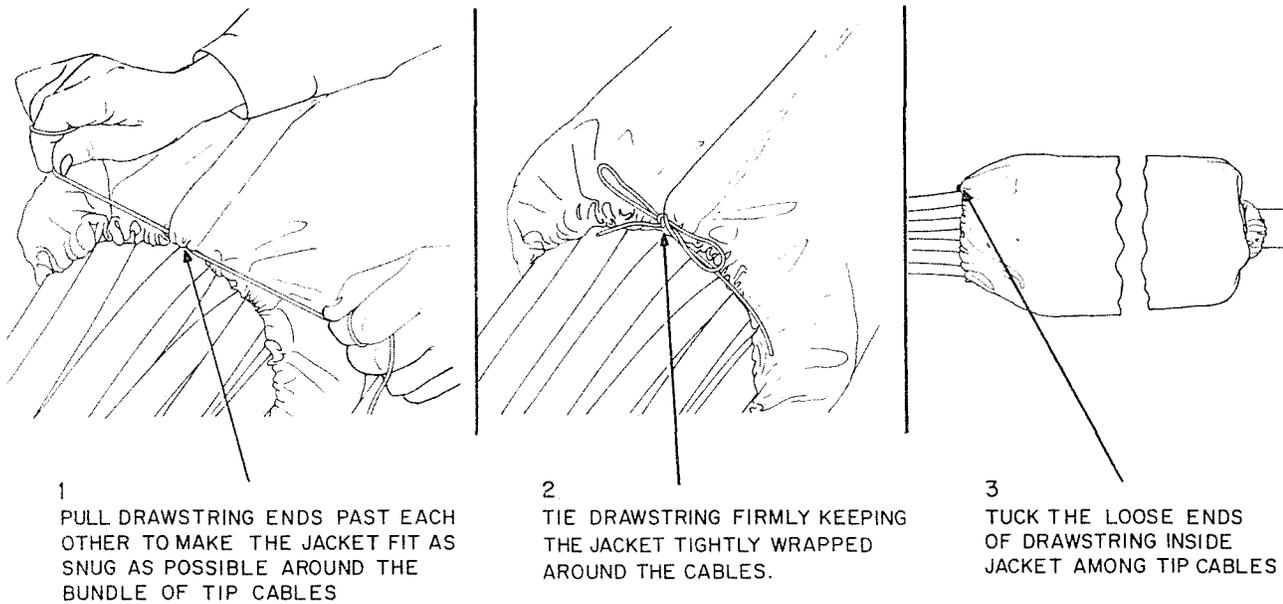

Fig. 4—Tying Drawstring Around Tip Cables
**3.06** Retie the drawstrings tightly around the tip cables as shown in Fig. 4.